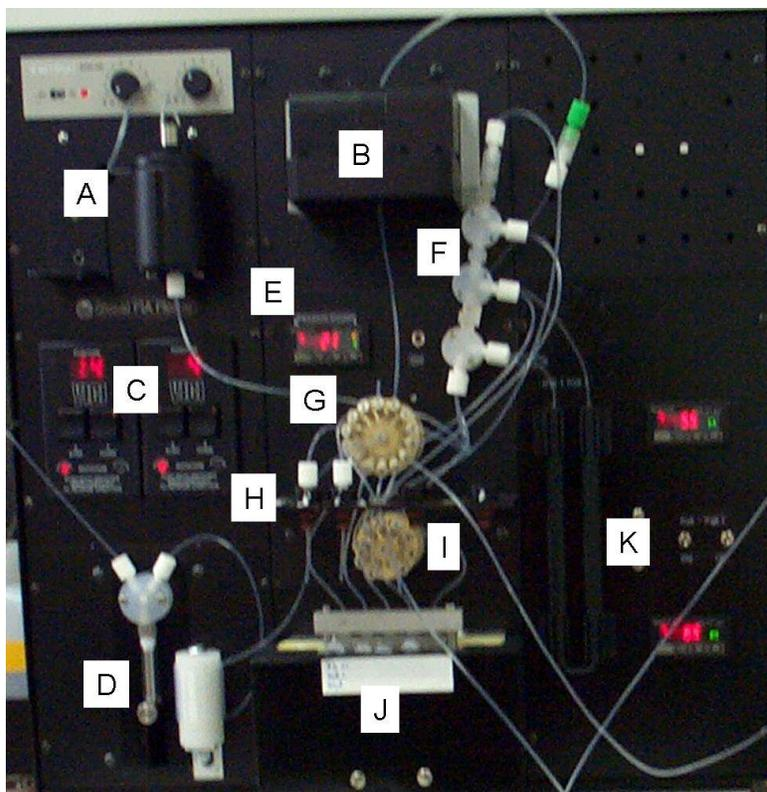

Figure 1: Fluidic Manifold layout
- Turn on the Hybridization heaters (Figure 1, K). Make sure Hyb. #1 is set to 83°C and Hyb. #2 is set to 55°C.